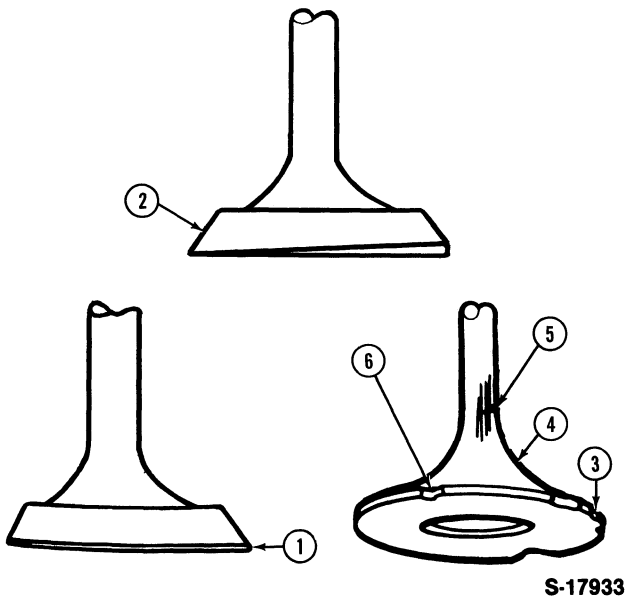

Figure 23
1. Clean all deposits from the valves using a soft wire brush. Inspect the condition of the valve and discard any that are badly burned, cracked or bent, Figure 23.